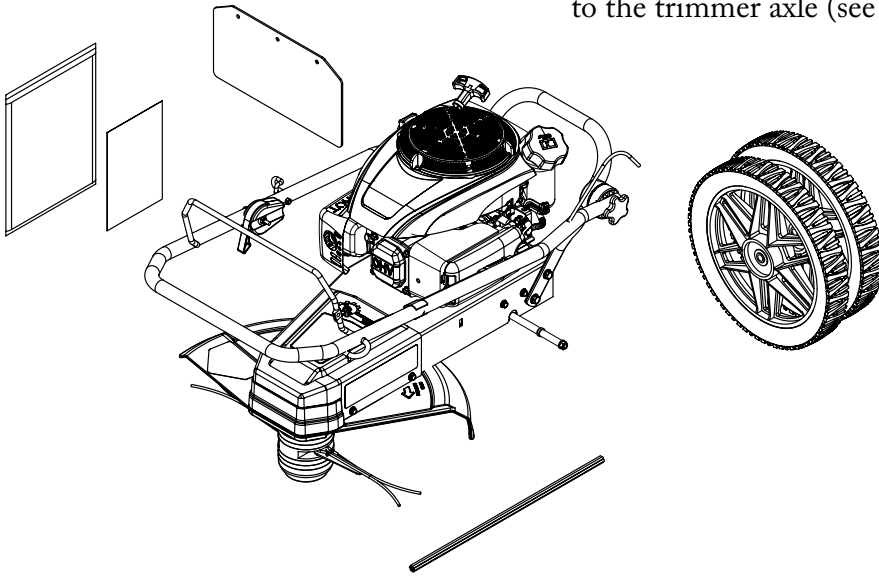

Figure 1
1. Remove wheels, manuals, extra trimming line, and the rubber debris guard from box (see Figure 1). With assistance, lift the trimmer out of box and set on a level surface.